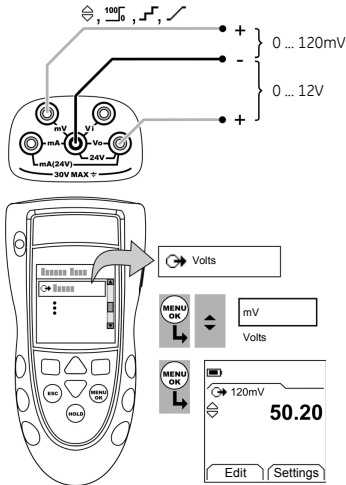

Figure 2: Example configuration - To supply mV or Volts
- 1. Connect the instrument (Figure 2) and, if necessary, adjust the *Set Up* (Table 1).